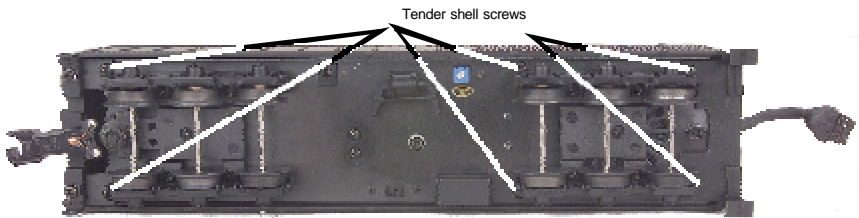

Figure 10
1. Remove the body from the chassis by removing the 6 screws shown in Fig. 10.